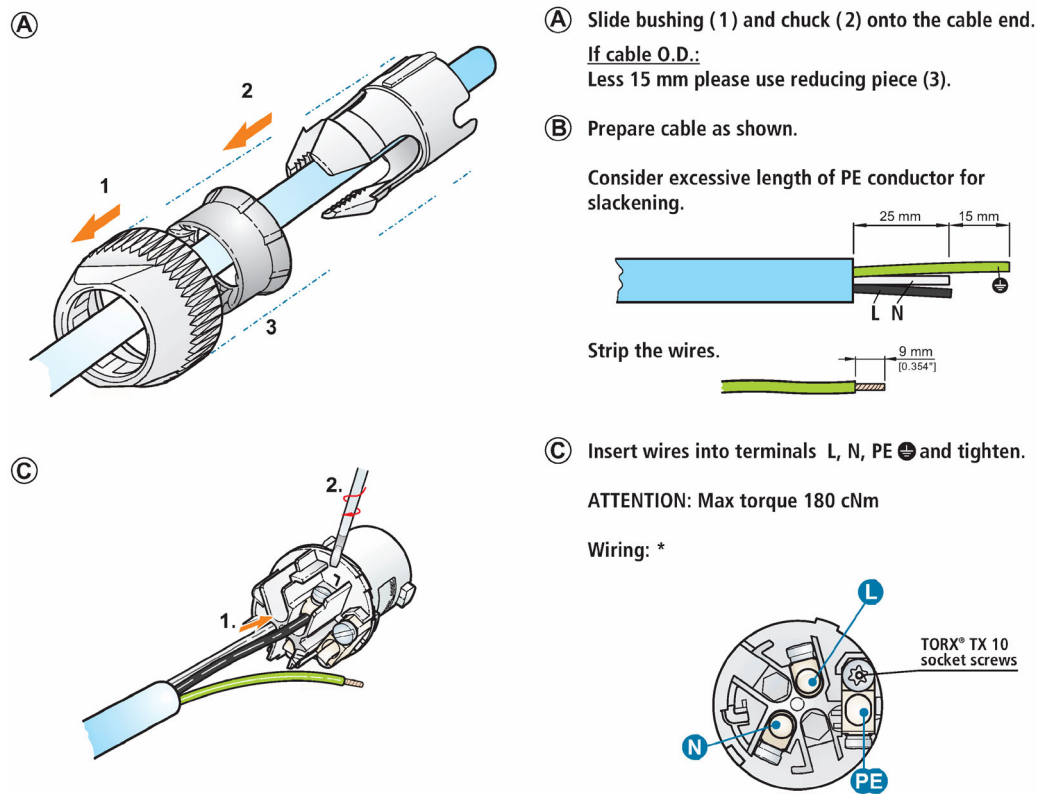

Figure 3 Cable Connector Assembly instructions
3. The mains conductor colors for Live, Neutral and Earth in Figure 3 are only examples and may not match the colors used in your geographical location.